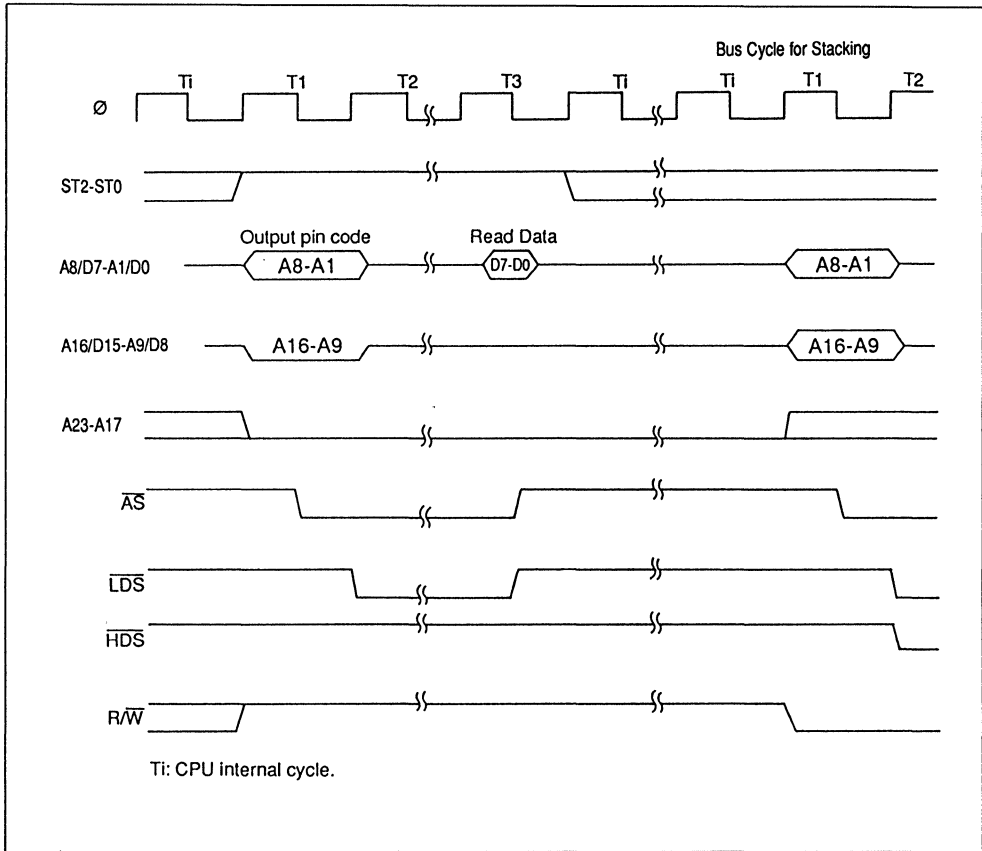

**Figure 4-75. Single Acknowledge Mode Interrupt Sequence**
**Single Acknowledge Mode:** In single acknowledge mode, the CPU internally latches an interrupt vector number on the data bus during the first interrupt acknowledge cycle to fetch the start address of the ISR (interrupt service routine) from the exception processing vector table. Therefore, the interrupting device must place the interrupt vector on the data bus. In addition, note that the CPU executes bus retry or acknowledge error interrupt processing depending on the BRTE bit value, if  $\overline{\text{BRTRY}}$  is asserted low during interrupt acknowledge cycle. Figure 4-75 shows the interrupt sequence in single acknowledge mode. Figure 4-76 shows single acknowledge mode bus timing.